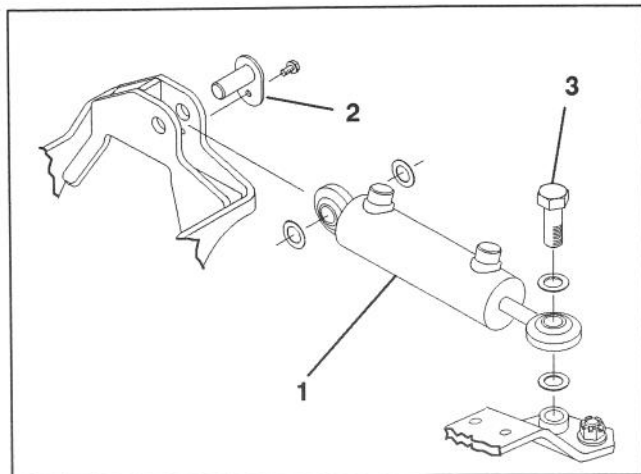

Figure 6
- Secure cap end of steering cylinder to cylinder support with (2) shims, cylinder pin and self tapping screw as shown in figure 6.
- Secure rod end of steering cylinder to steering arm with a 3/4 - 10 x 2-1/8" lg. capscrew and (2) thrust washers as shown in figure 6. Apply medium strength blue Loctite to capscrew before assembly. Tighten capscrew to 130-150 ft-lb.
- Remove plug. Carefully remove spring and SCR valve (Fig. 6, inset). Note position of spring and valve when removing.